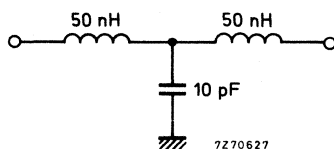

Fig. 9
- A low-pass filter (Fig. 9) with a cut-off frequency of about 300 MHz has to be inserted between the v. h. f. aerial terminal of the tuner and the aerial terminal of the receiver. Television receivers with a common v. h. f. /u. h. f. connector in combination with a low-pass/high-pass splitter 1) may not need this additional filter.